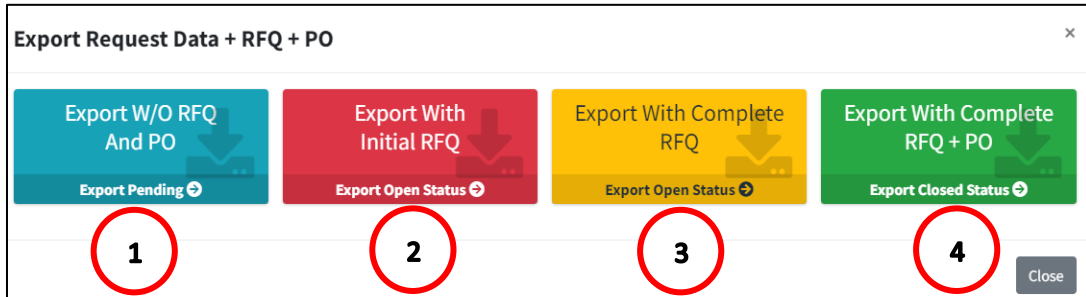

Figure 2.4
- Click **Export Pending** to export the **Request** data. (See Figure 2.4).